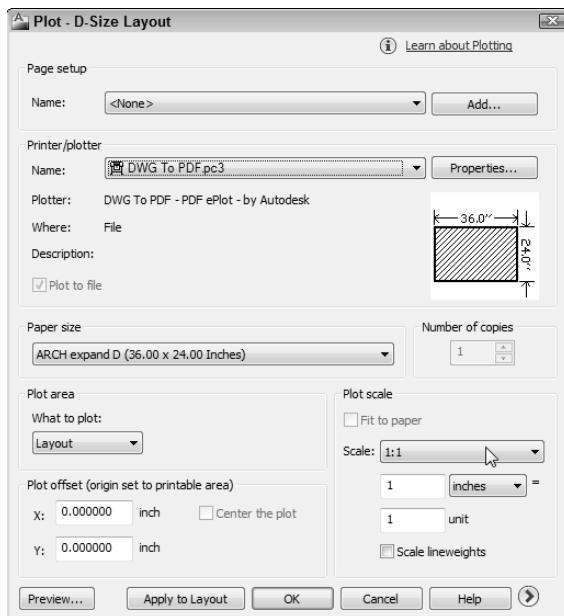

Figure 16-6:
The Plot dialog box appears with the name of the layout to be plotted displayed in the title bar. (In Figure 16-6, I'm plotting a layout named D-Size Layout.)
5. In the What to Plot drop-down list, choose Layout, as shown in Figure 16-6.
7. In the Plot Scale area, select 1:1 from the Scale drop-down list, as shown in Figure 16-6.
One of the big advantages of layouts is that you don't need to know anything about drawing scale in order to plot the drawing — hence the name *paper* space. Figure 16-6 shows the proper settings for plotting a layout.